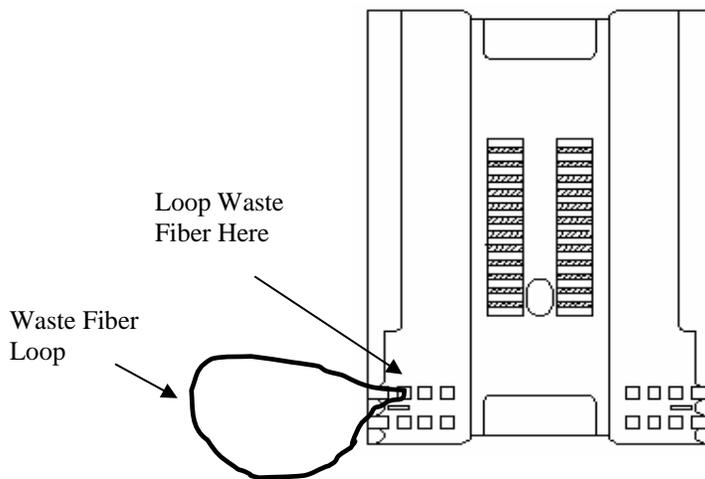

Figure 10 - Fiber Waste Loop
Step 10 – Loop the 12 inch piece of 900 micron fiber and insert it through the front-left retention slot in the splice tray farthest away from the entry point (See Figure 10 below).